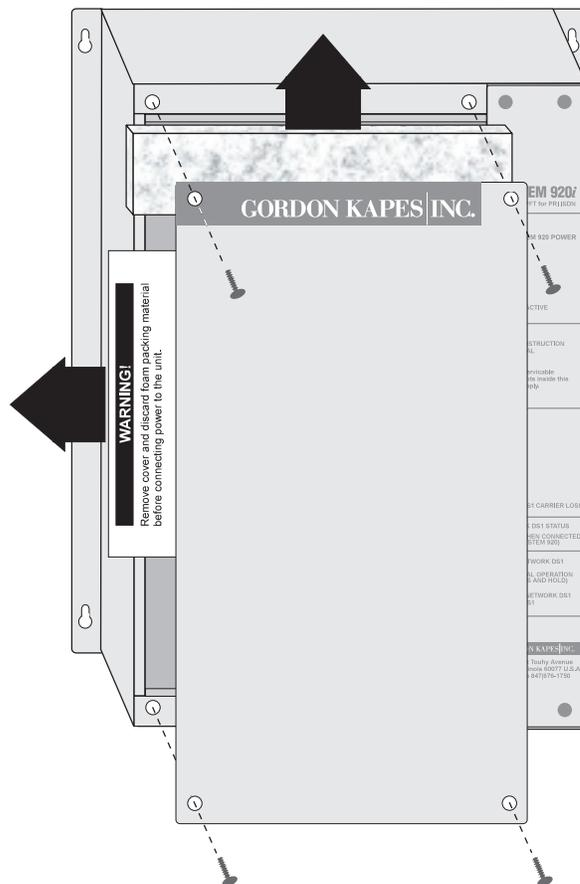

Figure 2-1. Remove Foam Packing Material and Warning Card from Unit
- ❑ Remove the front cover (shown in Figure 2-1) from the System 920i. This panel is held in place by four Phillips-head machine screws. Remove the foam packing material and warning card placed between the cover and the System 920i's enclosure. Retain these items along with the other packing material and shipping carton to use if you ever need to return the unit to the factory.